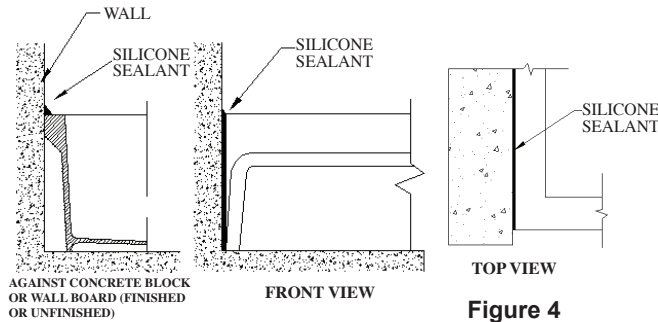

Figure 4
5. Once the basin is in place, apply silicone sealant (not included) at all points where mop basin meets the wall (See Figure 4).